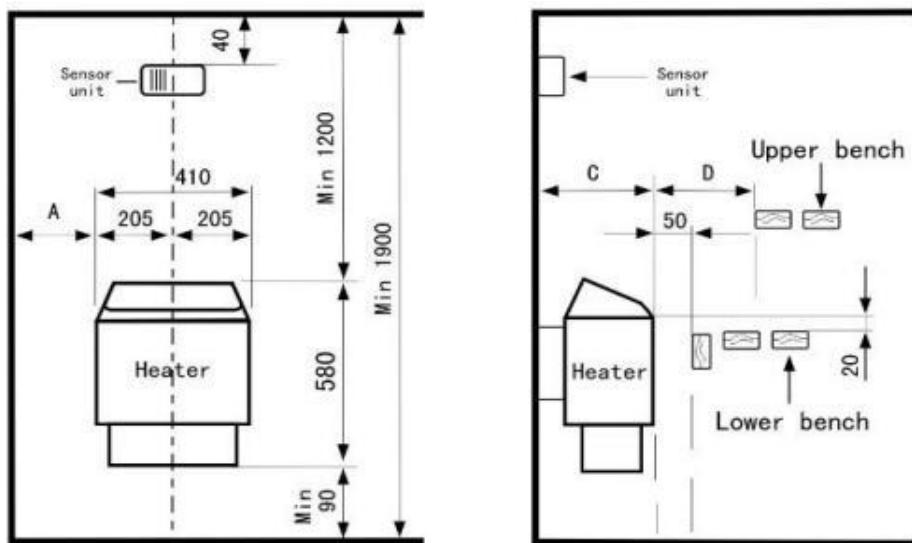
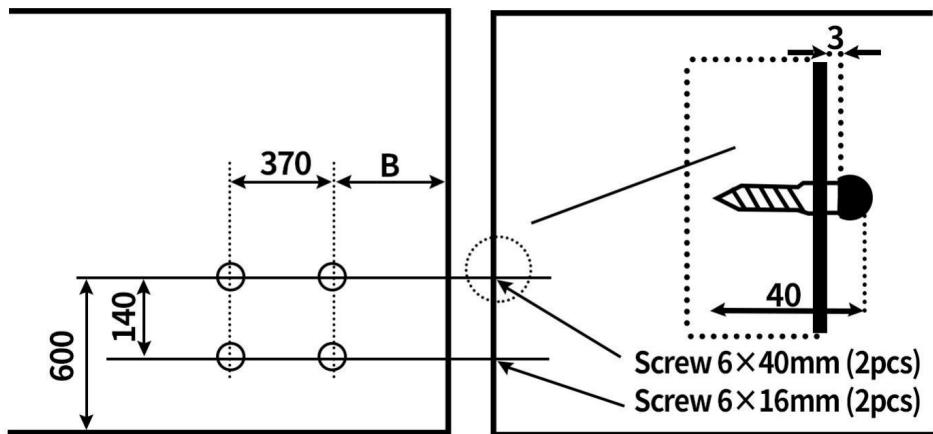

Fig3
Fig4
Temperature sensor and sauna heater must be installed strictly according to the following diagrams. (See Fig3 and Fig4)
- 1.Fasten the sensor unit with screws to the wall straight over sauna heater inside the sauna room. Check diagram for minimum distance (See fig3).
Please follow the minimum safety distance of sauna heater during installation (See fig3), which is included in installation diagram. Failure to follow these may cause a burn to the wooden wall.